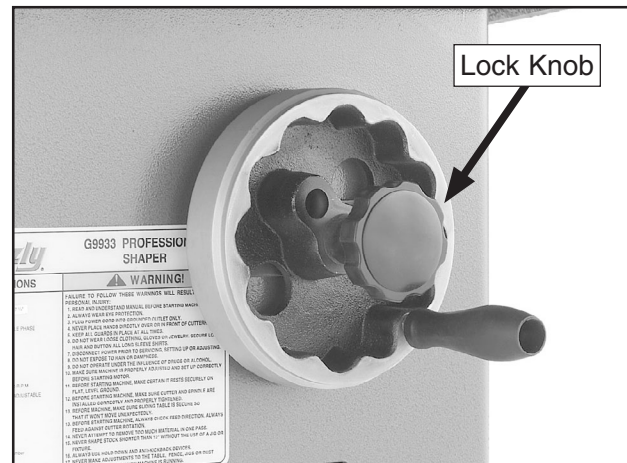

Figure 17. Height handwheel and lock knob.
2. Loosen the height lock knob and rotate the height handwheel to bring the cutter to the required height, then re-tighten the lock knob (see **Figure 17**).